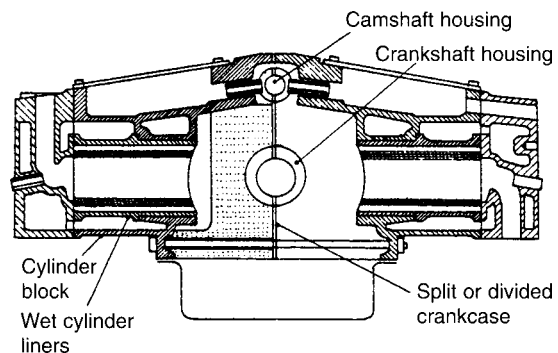

Fig. 1.12 Horizontally opposed cylinders with divided crankcase
- **Opposed piston or cylinder engine** This is where the cylinders are at an angle of  $180^\circ$  apart and usually positioned horizontally (see Fig. 1.12).